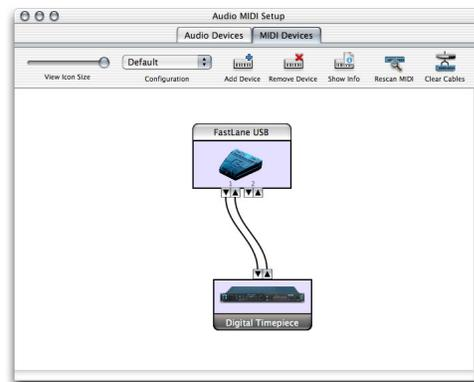

Figure 1: The Digital Timepiece in Audio MIDI Setup. In this example, a MOTU FastLane-USB is being used as the MIDI interface.
Confirm that the Digital Timepiece is present in the Mac OS X Audio MIDI Setup utility. Also confirm that Audio MIDI Setup accurately reflects the Digital Timepiece's hardware connection to the computer via a USB MIDI interface, as demonstrated below in Figure 1:
The Digital Timepiece has two sets of MIDI IN/OUT ports. Make sure that one set or the other (it doesn't matter which one) is connected bidirectionally to the MIDI interface. Make sure that the virtual connections in Audio MIDI Setup (Figure 1) accurately reflect the MIDI ports being used for the MIDI cable connections between the interface and the Digital Timepiece.
- The Digital Timepiece is not connected to the MIDI interface, or it is connected improperly. Make sure your cable connection(s) to the Digital Timepiece match Figure 1. Then choose *Refresh Device* from the File menu.